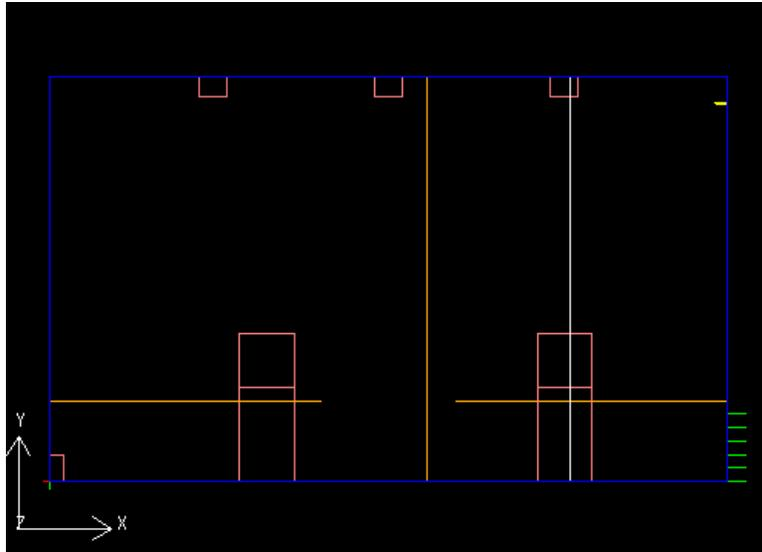
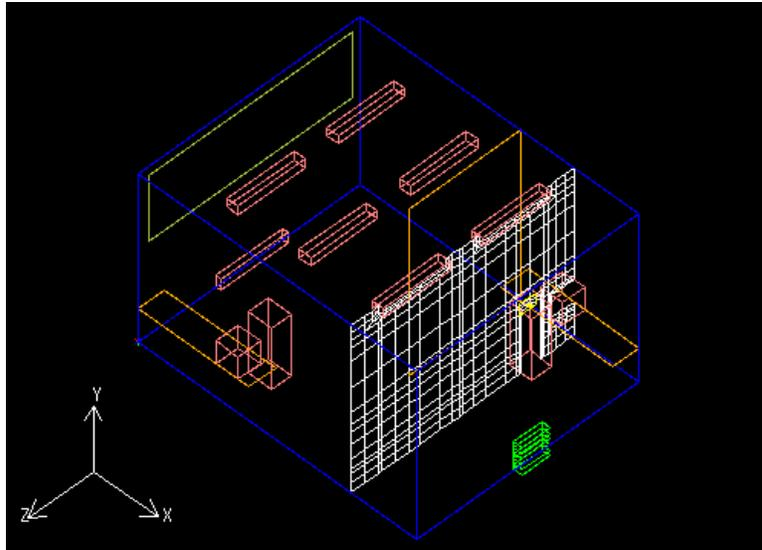

Figure 26.9.6: Specification of a Vertical Cross-Section
Figure 26.9.7: Isometric View of Cross-Sectional Mesh Display
- (a) Use the **Orient** menu to specify the desired orientation. If you require a horizontal or vertical plane through your model, choose the orientation such that the plane of the display screen is perpendicular to the desired mesh-display plane. For example, if you want to display the mesh on a $y-z$ or $x-y$ plane, choose **Orient positive Y** as the orientation so that the display-screen plane is the $x-z$ plane (see Figure 26.9.6). If you want to specify the plane by selecting three points on it, orient your model as desired.
selected point. In Figure 26.9.6, the vertical mesh plane is indicated by a vertical line passing through the model. Figure 26.9.7 shows an isometric view of the same mesh plane.